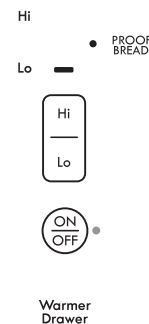

Figure 42: Bread Proof indicator light
4. Press **Lo** again to activate Proof Bread feature. The Proof Bread indicator light will glow when the Proof Bread feature is active (Figure 42).